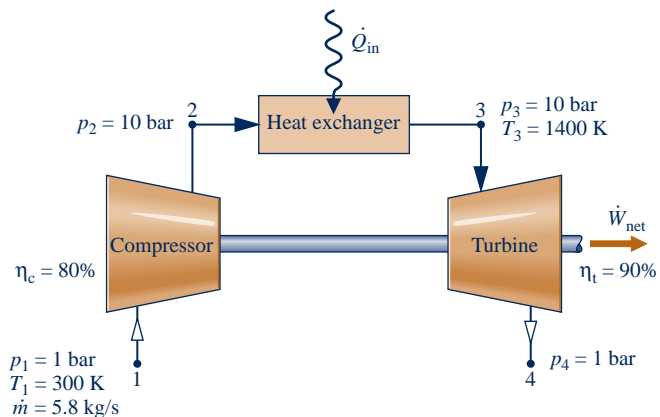

Fig. P6.166
6.166 Figure P6.166 shows a power system operating at steady state consisting of three components in series: an air compressor having an isentropic compressor efficiency of 80%, a heat exchanger, and a turbine having an isentropic turbine efficiency of 90%. Air enters the compressor at 1 bar, 300 K with a mass flow rate of 5.8 kg/s and exits at a pressure of 10 bar. Air enters the turbine at 10 bar, 1400 K and exits at a pressure of 1 bar. Air can be modeled as an ideal gas. Stray heat transfer and kinetic and potential energy effects are negligible. Determine, in kW, (a) the power required by the compressor, (b) the power developed by the turbine, and (c) the net power output of the overall power system.